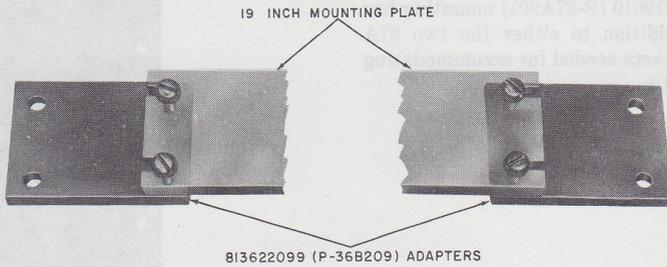

Fig. 43—813622099 (P-36B209) Adapter
10.02 The 813622099 (P-36B209) adapter (Fig. 43) consists of two extensions required for mounting one 1-3/4 by 19-inch mounting plate on 23-inch gates and relay racks.